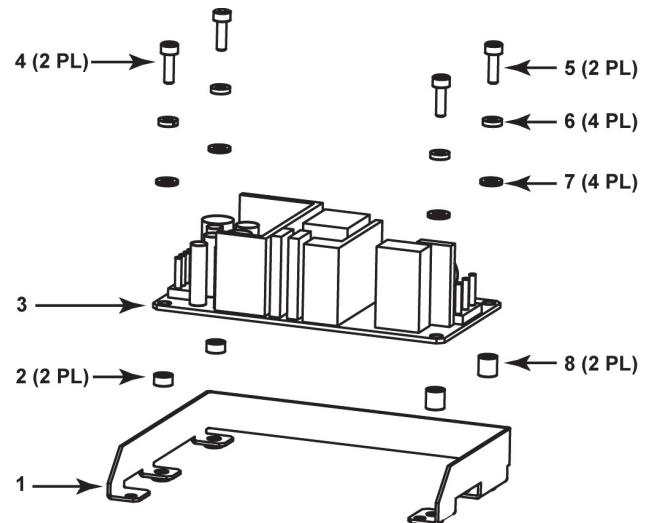

Figure 6. Power Supply Assembly Hardware
- ❼ Fasten the new power supply to the bracket using the hardware shown in Figure 6.